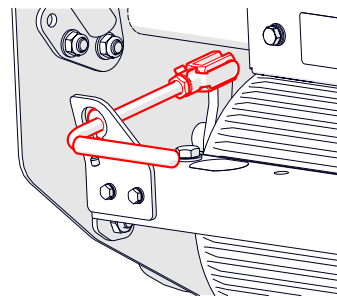

Fig. 14A - Parking brake release
2. Release the parking brake (Fig. 14A).